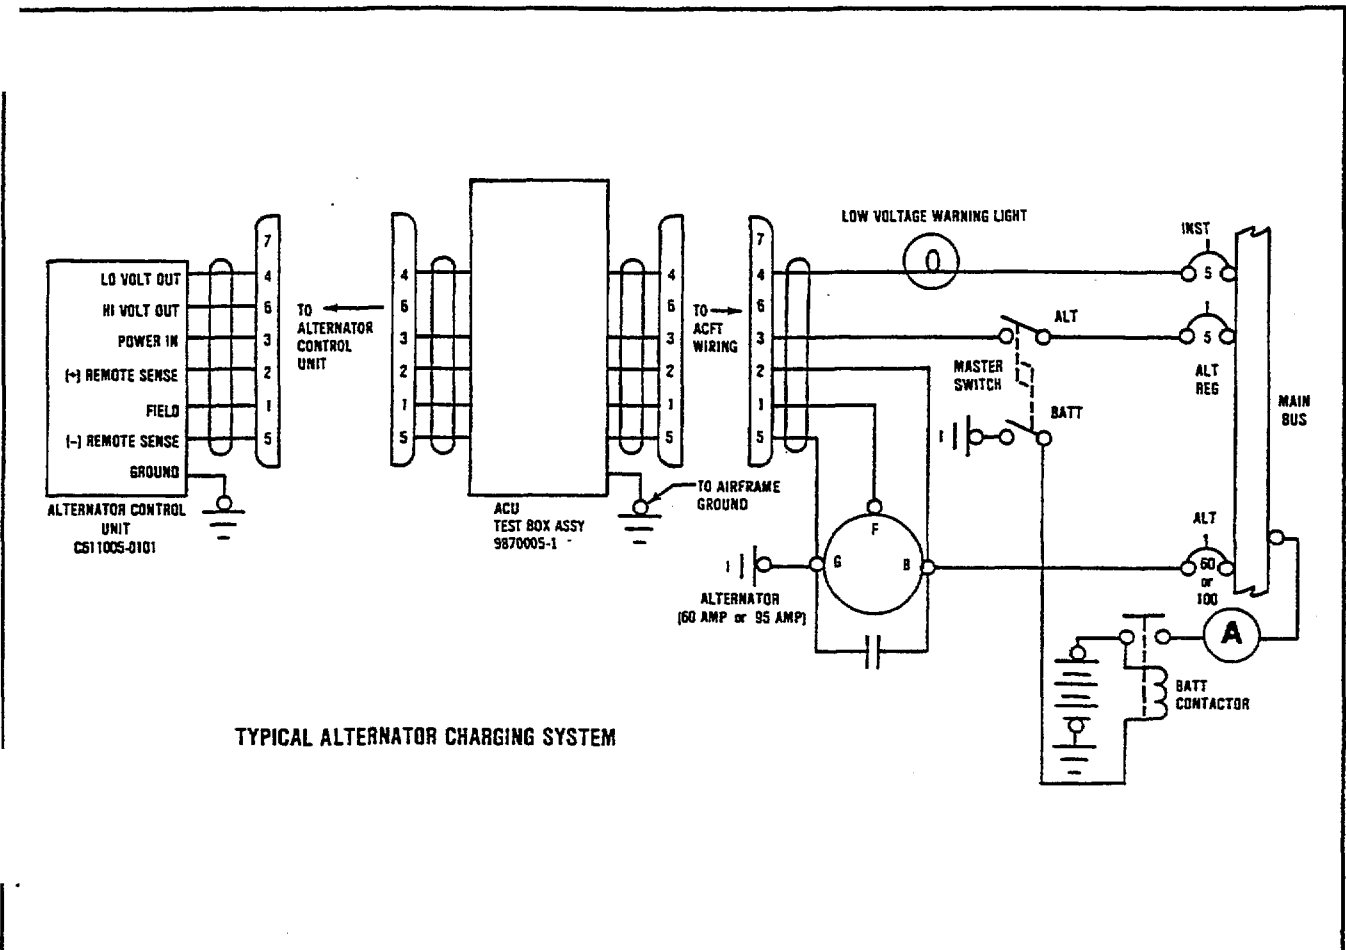

Figure 6-3. Wiring Diagram, ACU Tester & Alternator Charging System
1. Hook-up the ACU Tester Assembly between the ACU and aircraft connector, connect ground lead (alligator lip) to aircraft frame as shown on the wiring diagram in Figure 6-3.